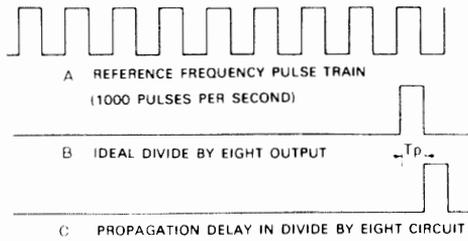

Fig. 6 Waveforms in divide-by-eight circuit
**Fig. 6** indicates waveform relationships for a basic divide-by-eight circuit. The basic oscilloscope settings are identical to those used in **Fig. 5**. The reference frequency of **Fig. 6A** is supplied to the Channel 1 input, and the divide-by-eight output is applied to the CH2 input. **Fig. 6** indicates the time relationship between the input pulses and output